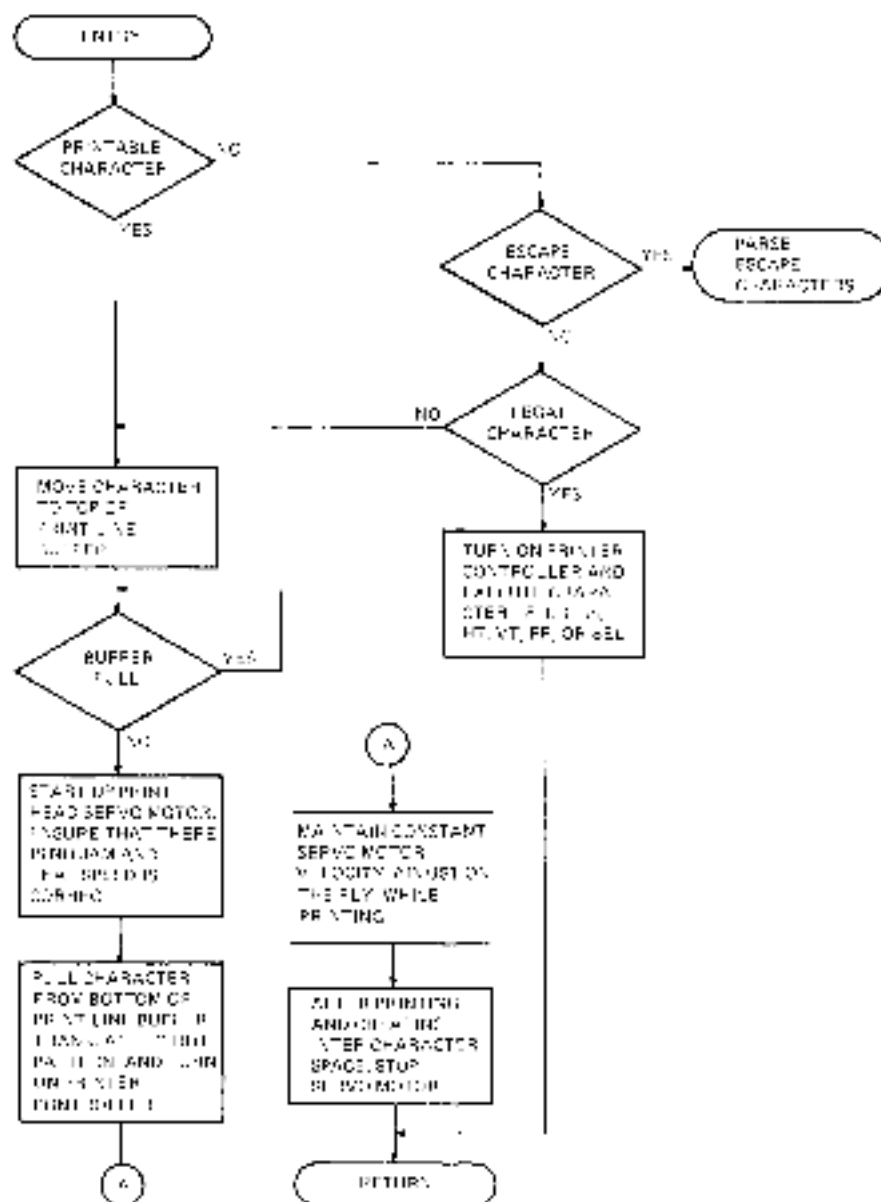

Figure 5-18 Print Character Routine
5.4.4.4 Microcode – Figure 5-18 shows a simplified flow of the internal microcode associated with printing and carriage control.